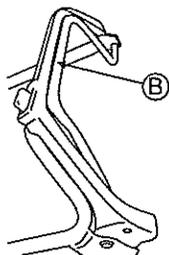

Fig. 18.
- 4 Push Drive clutch lever (B) forward to start mowing. (See Fig. 18.)